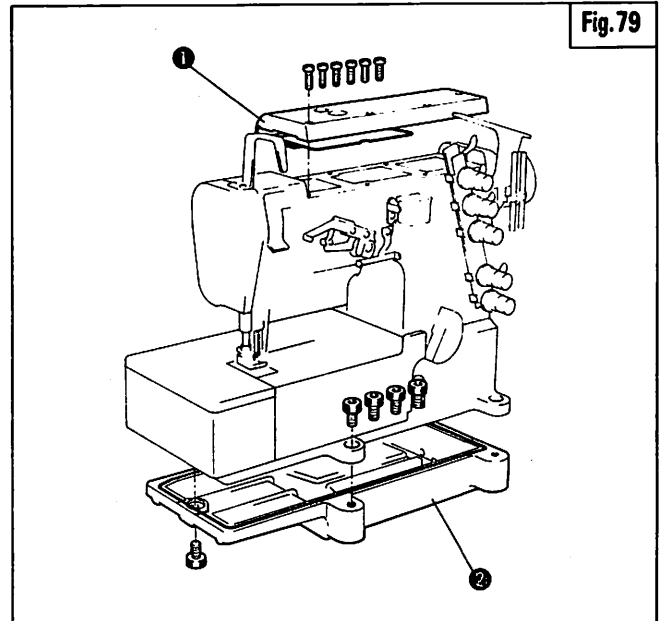

Fig. 79
1. Refer to Fig.79 and remove Arm Top Cover ① and Oil Reservoir ②.
4. Turn Handwheel ④ and make sure that the looper starts to move to the left from its right dead point as the needle bar starts to rise from its lowest position.
5. Make sure that the mark ⑤ on Handwheel ④ faces to the mark ⑥ when the needle bar is in its highest position.
6. Refer to Fig.79. Replace Arm Top Cover ① and Oil Reservoir ②.